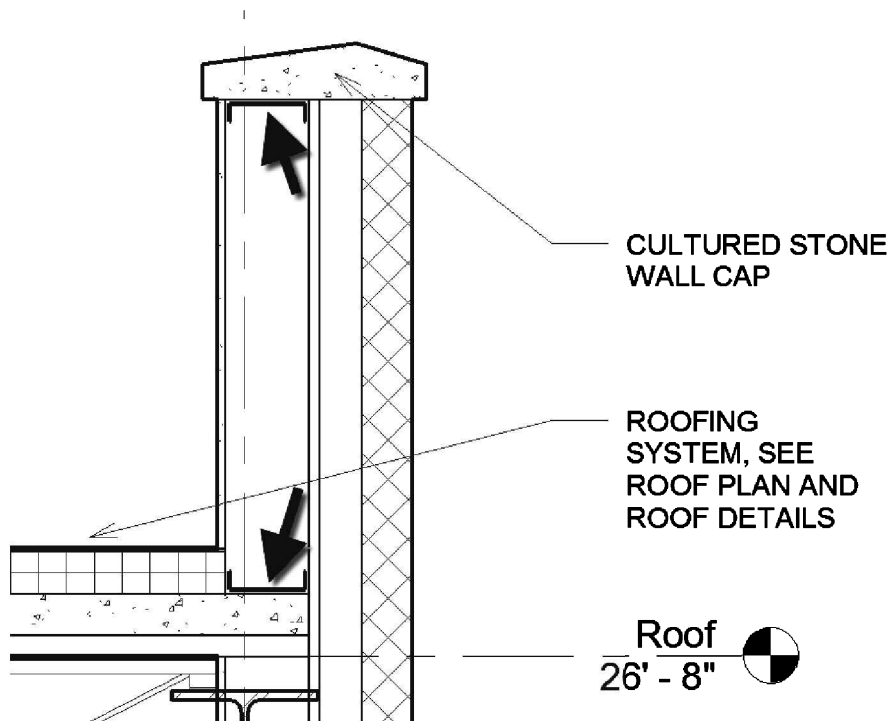

FIGURE 10-4.9 Typical Wall Section view; metal channels added
21. Add the channels as shown in Figure 10-4.9.